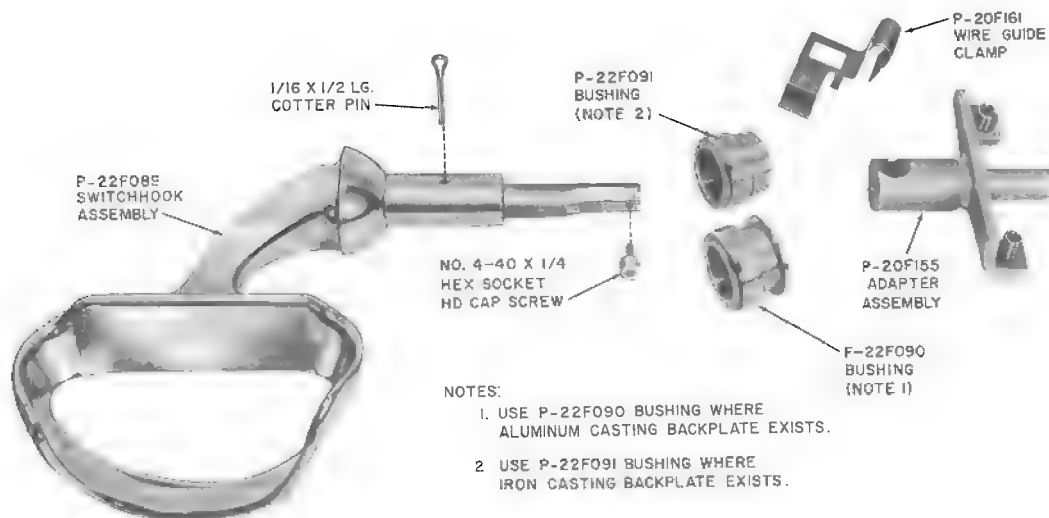

Fig. 21—D-180009 Switchhook Kit
2.30 The D-180009 switchhook conversion kit (Fig. 21) is designed to reduce switchhook blocking and permit a simple adjustment of switchhook travel. The conversion kit can be used for field conversion of 200-type and 1234-type coin collectors.
- (2) Select correct bushing (Fig. 21) and slide over shaft of switchhook.